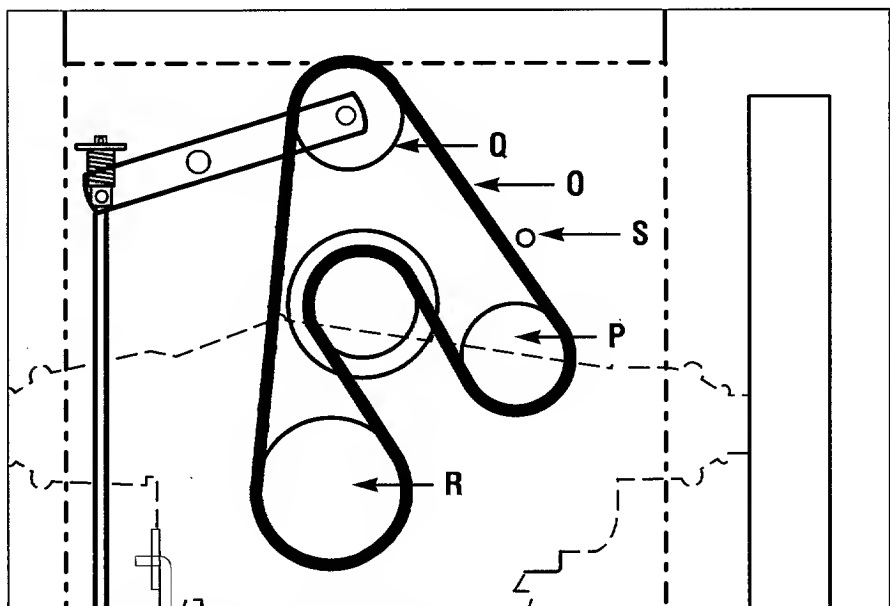

Figure 5-11: Wheel drive belt replacement.
4. Locate wheel drive belt (O, Figure 5-11) and remove it from top sheave of engine sheave, back-sided idlers (P and Q) and transmission sheave (R).
5. Install new belt shown in Figure 5-11. Belt must be installed "inside out" "V" side of belt lies against engine sheave only. Flat side of belt lies against transmission sheave (R) and back-sided idlers (P and Q).
6. Make sure belt is inside belt guide (S, Figure 5-11).